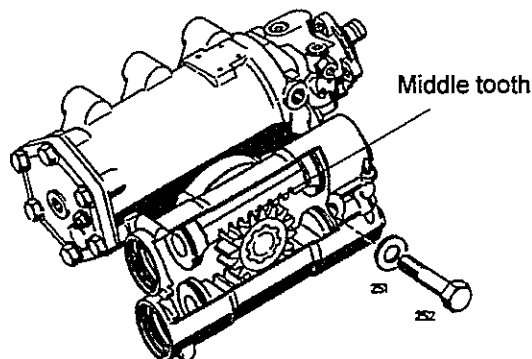

Fig.47
Screw add-on cylinder (250) onto the steering so that the middle tooth of piston (258) engages in the gap in gear (254) in each case (**Fig.47**).